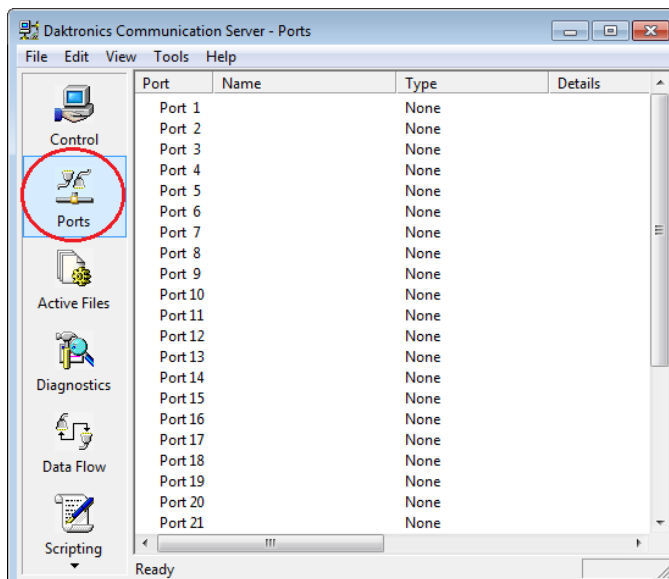

Figure 79: DCS Ports
5. Click the **Ports** button on the left side of the application window (**Figure 79**).
- Click the **Data Flow** button on the left side of the application window (**Figure 79**).